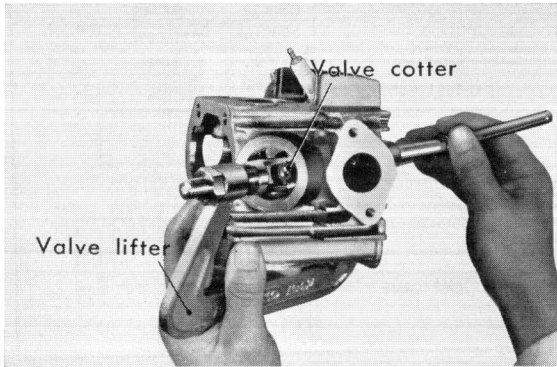

Figure 3-59. Removing valve cotter
- (3) Compress the valve spring with the valve lifter and after removing the valve cotter, the valve spring and the retainer can be removed. (Fig. 3-59)